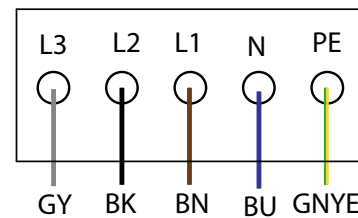

Figure 12: 5-core connection
6. Connect the cables in accordance with the label on the PCB terminals (Figure 12 on page 20).